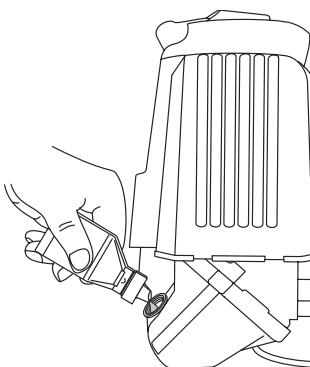

Fig. 26
**NOTE:** Use the bottle and spout saved from initial use to measure the correct amount of oil. The top of the label on the bottle measures approximately 3.04 ounces (90 ml) (Fig. 26). Check the level with the dipstick. If the level is low, add a small amount of oil and recheck. Do not overfill (Fig. 26).